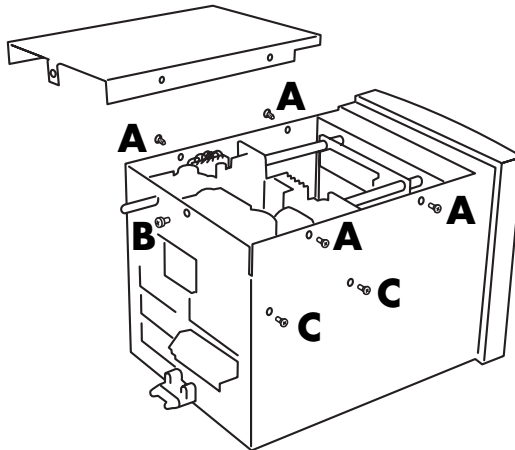

Figure 11.3a Top cover removal
1. Remove the top plate of the unit by removing the four M2.5 countersunk-head securing screws ('A' in figure 11.3a) and the M3 pan-head screw ('B' in the figure).